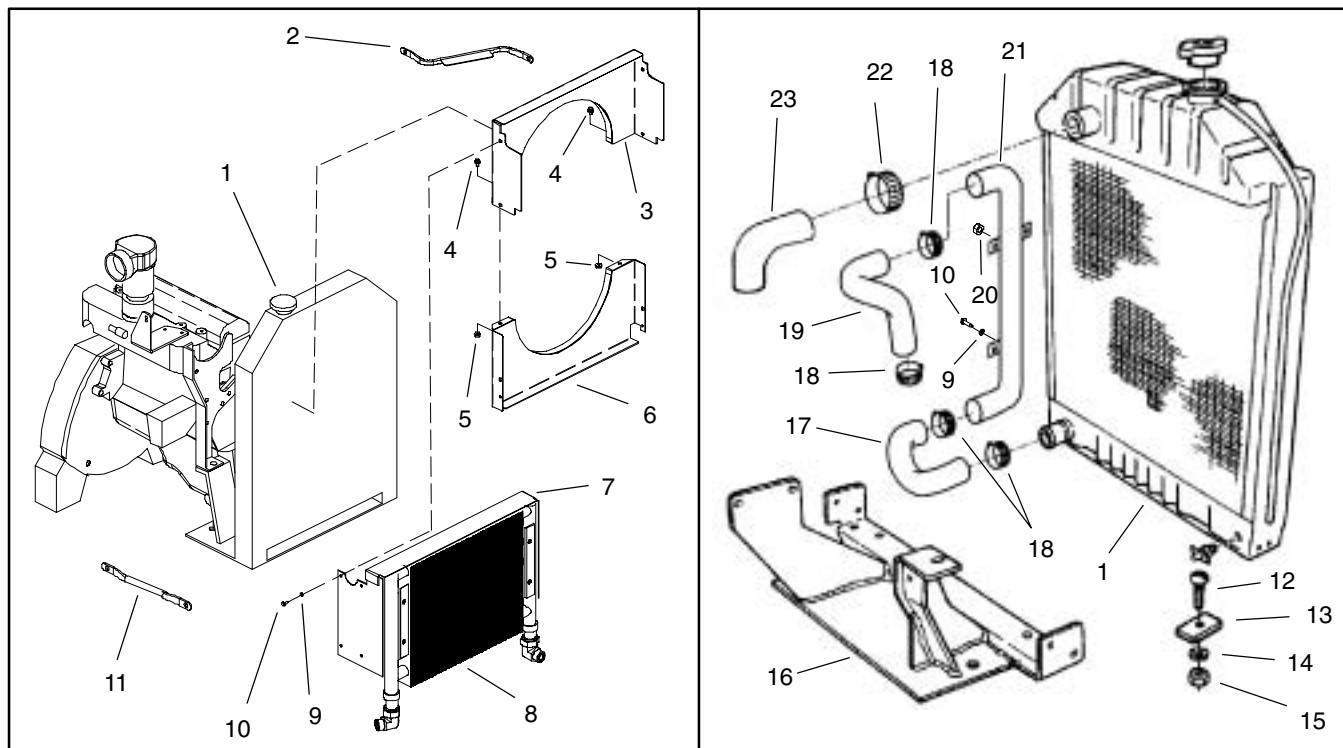
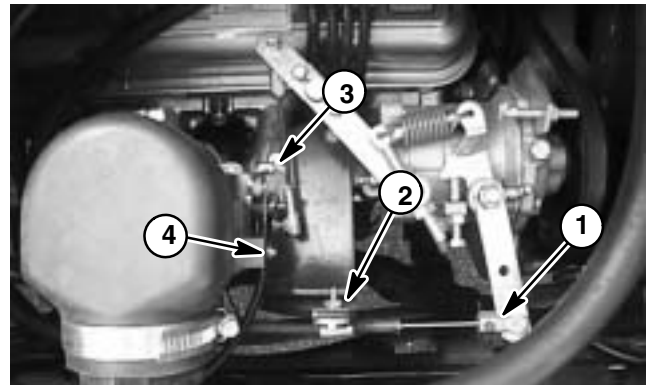

Figure 6
Figure 7
### Removal (Figs. 6)
- A. Remove four (4) self-tapping screws and lock washers that secure oil cooler shroud to radiator.
8. Remove control cables from engine (Fig. 7).
12. Remove two (2) bolts, flat washers, and hex nuts that secure the bottom of the radiator to the engine support frame.
**Installation (Figs. 6)**
1. Position radiator to the engine support frame. Place cushions between radiator and frame. Secure radiator to the support frame with two (2) bolts, flat washers and hex nuts.
7. Route throttle and choke cables to engine. Install choke cable to carburetor and throttle cable to control bracket (Fig. 7). Adjust choke cable (see Adjust Choke Cable in the Adjustments Section of this Chapter).